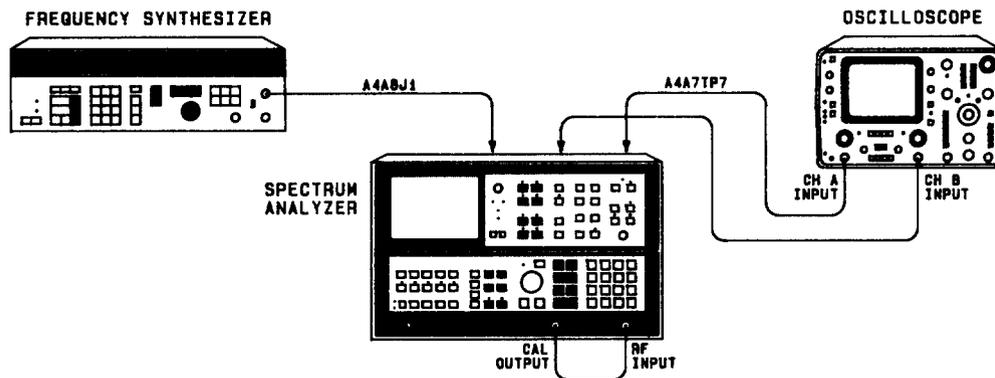

FIGURE 23. 3 MHz BANDWIDTH FILTER ADJUSTMENTS SETUP
1. Position instrument upright as shown in Figure 23 and remove top cover.